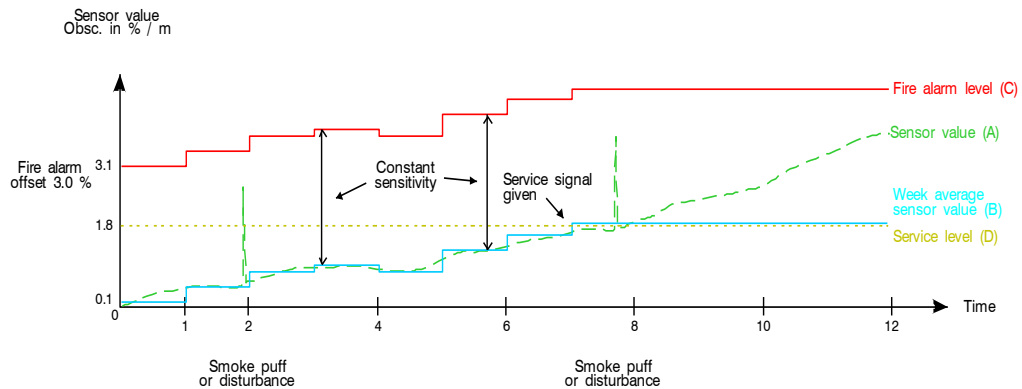

Figure 36 Basic working principle for Analogue smoke sensor
An Analogue smoke detector is like a "sensor". It detects its environment at all times. Each detected Analogue value is converted in the detector to a digital "**sensor value**", which is continuously picked up and evaluated by FT1020G3 for each individual detector. In Figure 36, the (digital) sensor values (during a certain time) are represented by the graph "**Working level**".
Each hour, one sensor value is stored in a special memory (in FT1020G3) and each week, these stored sensor values are used to calculate a "**week average sensor value**".¹¹⁹ This is done for each Analogue smoke detector individually. In Figure 36, the (digital) week average sensor values (during a certain time) are represented by the graph "**Week average sensor value**" (B).
A "**fire alarm offset**" (value) is added to the week average sensor value to get each detector's "**Fire alarm level**", i.e. the fire alarm level will be adjusted in relation to each new week average sensor value in order to keep the detector's fire alarm sensitivity constant. The fire alarm level is in Figure 36 represented by the graph "**Fire alarm level**" (C) - parallel with the graph "**Week average sensor value**" (B).
In Figure 36 (at Time = 0):
Service signal will be given when the week average sensor value for a detector has reached the service signal level (1.8 %/m), i.e. the detector is "dirty" and has to be replaced. See "**Service level**" (D) in Figure 36. The week average sensor value will now stay on 1.8 %/m, i.e. the detector will be more sensitive until it is replaced with a new one.